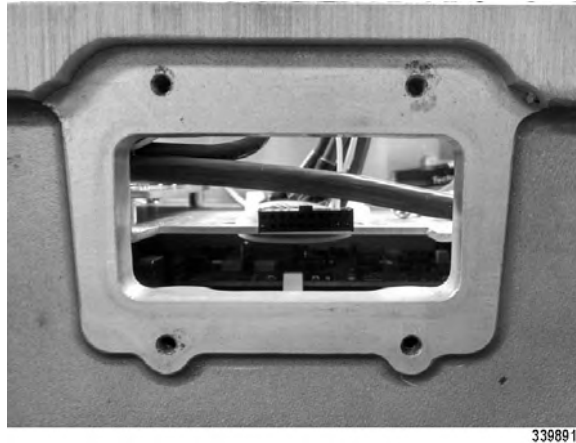

Figure 15. EMI Gasket Surface
3. Ensure the EMI gasket mating surface on the DPIM housing is clean (refer to Figure 15).